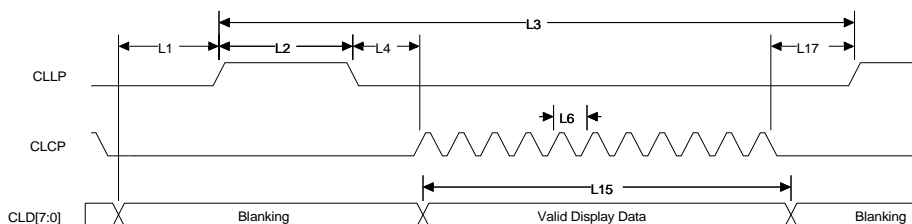
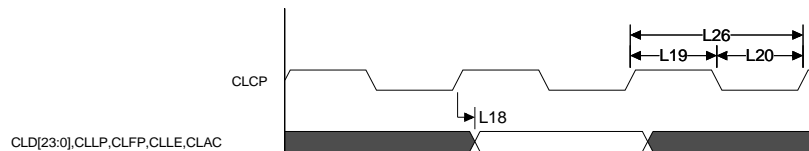

Figure 126: Horizontal timing for STN displays
Figure 132: LCD output timing
Table 479 describes the values shown in the LCD timing diagrams (Figure 126 through Figure 132).
- 7 Note that data is sampled by the LCD panel on the falling edge of the CLCP in Figure 132, "LCD output timing," on page 811). If the polarity of CLCP is inverted, this parameter is relative to CLCP falling, instead.